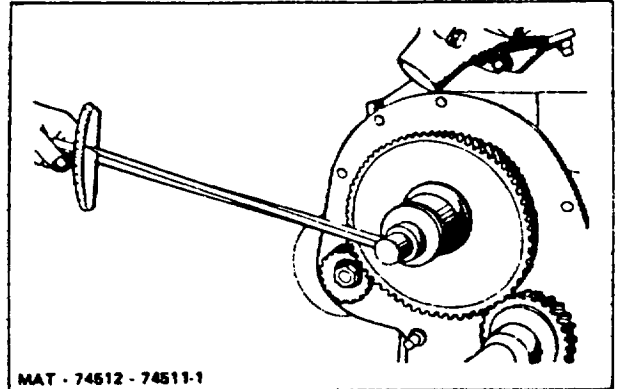

Figure 56. Torquing Cam Gear Nut
3. Install the cam gear nut (Figure 56). Torque 175-180 lb.ft.